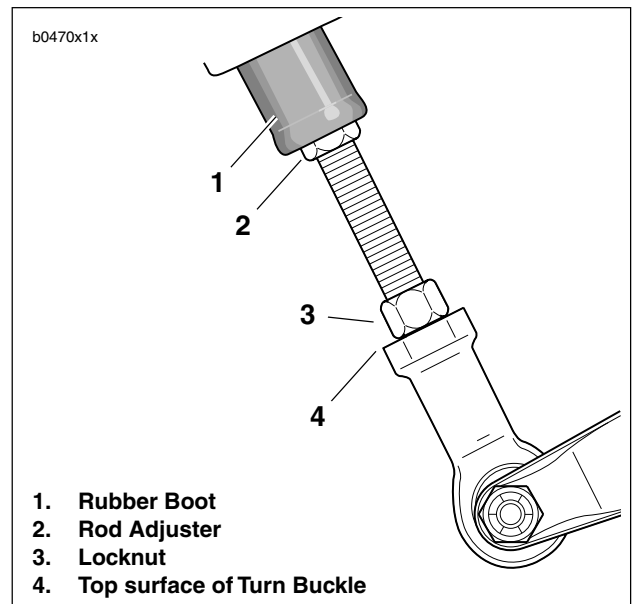
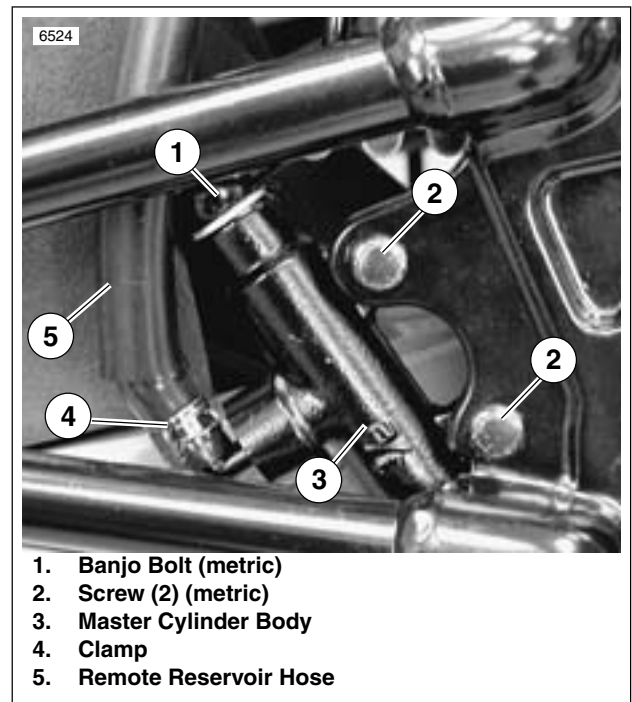

Figure 2-37. Brake Push Rod
Figure 2-38. Master Cylinder Mounting (Typical)
3. See Figure 2-37. Disconnect push rod from brake pedal turn buckle (4).
- a. Spin locknut (3) away from top surface of turn buckle.
- b. Turn rod adjuster (2) to free rod from turn buckle (4).
4. See Figure 2-38. Remove two screws (2) (metric) to detach master cylinder (3) from frame.
2. See Figure 2-38. Attach master cylinder (3) to frame. Apply **LOCTITE THREADLOCKER 243** (blue) to both screws (2) (metric). Tighten to 8-10 **ft-lbs** (11-14 Nm).
4. See Figure 2-37. Install push rod.